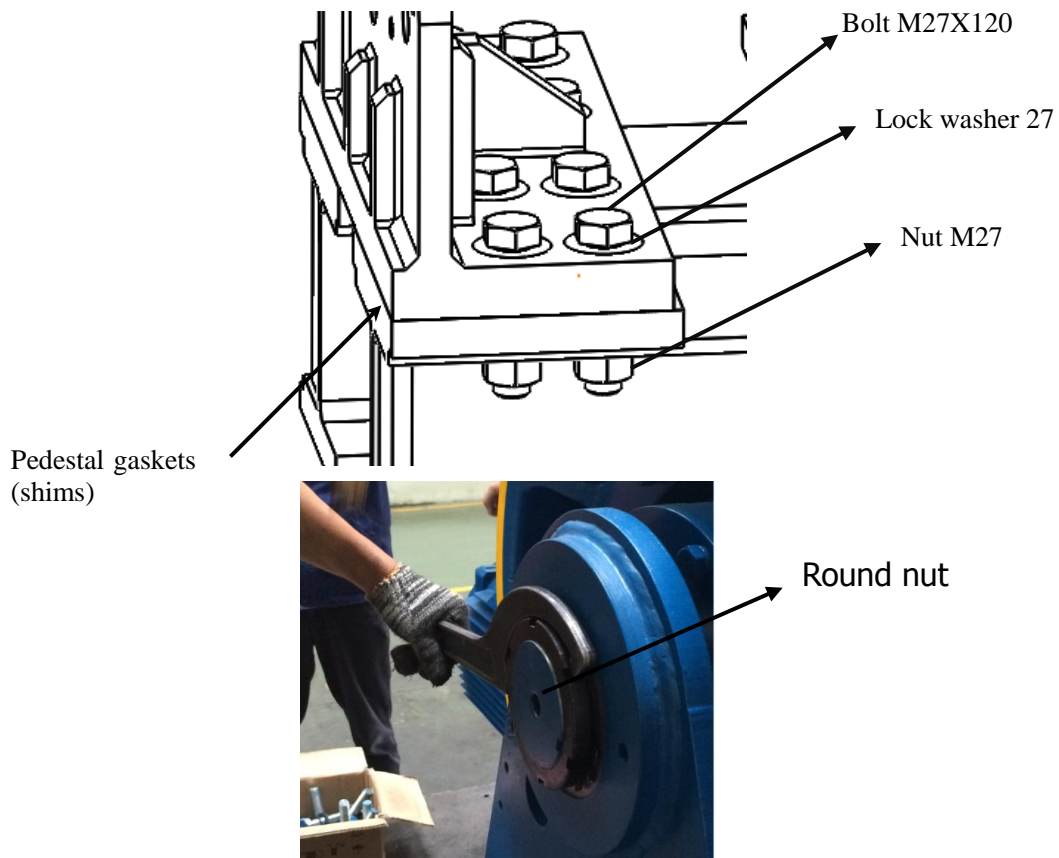

Figure 29 Sheave replacement
6. Insert, thread, and hand tighten the eight bolts (M20x120), nuts (M20) and Washers (20).
9. Fit main shaft, pedestal and pedestal gaskets (shims) together, then insert, thread, and hand tighten the bolts (M27x120), Washers (27), and nut 27; tighten round nut. **Make sure the pedestal gaskets are in the same location as when removed.** See figure 29.